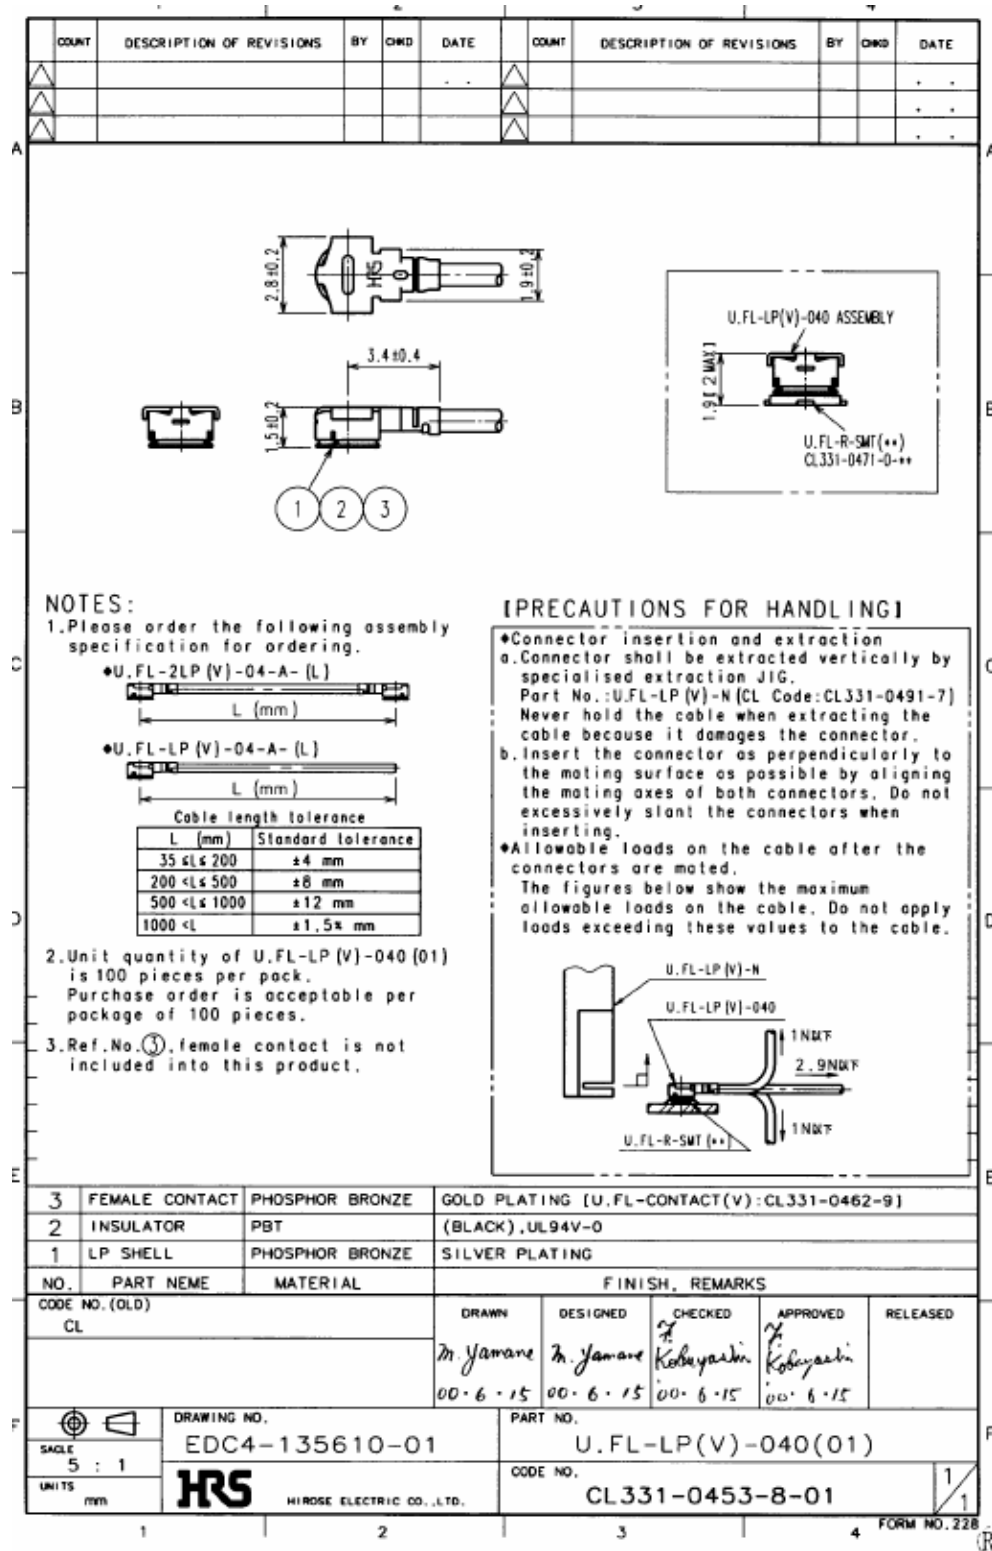

Figure 44: Specifications of U.FL-LP-(V)-040(01) plug
In addition to the connectors illustrated above, the U.FL-LP-(V)-040(01) version is offered as an extremely space saving solution. This plug is intended for use with extra fine cable (up to $\varnothing 0.81\text{mm}$) and minimizes the mating height to 2mm. See Figure 44 which shows the Hirose data sheet.